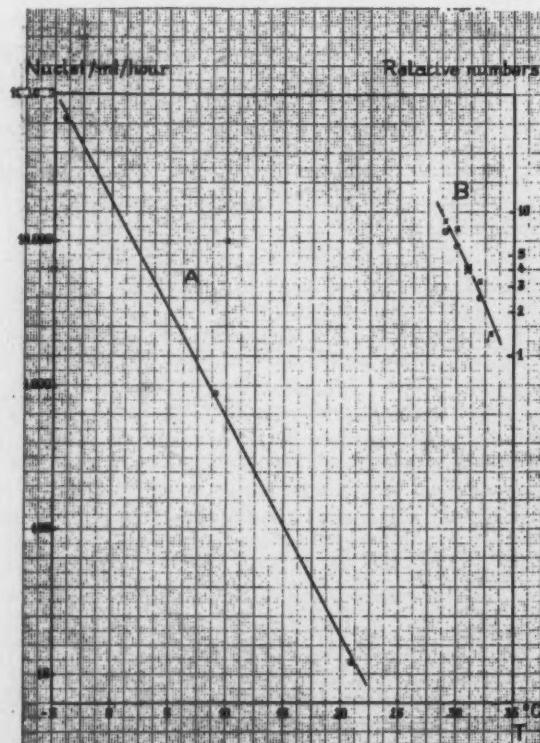

Fig. 17. β -nuclei-formation velocities. (A) Pure unagitated cacao butter (B) Agitated chocolate liquor.
β -nuclei appear at a measurable speed. We found that at 21° (70° F) the velocity of nuclei-formation is about 12 nuclei/ml/hour, at 9° C (48° F) 900 nuclei, at -4° C (25° F) 70,000 nuclei. This is represented by line A in Fig. 17. It can be seen that the logarithm of the number of nuclei formed is inversely proportional to the temperature, as might be expected from the classical equations of kinetics.
In chocolate liquor the solid-liquid interfacial area is very large, and during tempering the liquor is continually stirred. Under these conditions, β -nuclei-formation can take place from the melt. It is impossible to determine the number of nuclei formed, but from the time necessary to obtain optimum temper, relative speeds can be calculated. Line B in Fig. 17 is based on results obtained by Neville et al. (28) and Grover and Wertheim (18) between 29° C (84.2° F) and 33° C (91.4° F). It is remarkable that the slope of this line is apparently not very different from that of line A. It should not be forgotten that at these temperatures a considerable proportion of the cacao butter is liquid at equilibrium.
A comparison with Fig. 17 shows that the nucleation formation velocity increases about ten times faster with decreasing temperature for the γ -form of cacao butter than for the β -form. Borneo tallow shows a similar behaviour, but the line lies about 4° C higher. The mixture of cacao butter with 15% butterfat lies 0.6° C lower (1° F), while pure butterfat gives a line with a much lower slope.
- 3) The β -nuclei required for correct tempering can come from additions of old chocolate shavings which are in the stable form, or they can originate in the liquid chocolate liquor. In the latter case the nucleation speed will depend, for a given mix, on the temperature and the degree of agitation. Fig. 17 shows that it is doubled every time the temperature is decreased for 2° C (3.6° F). Agitation is very effective because it breaks up aggregates into many small particles.